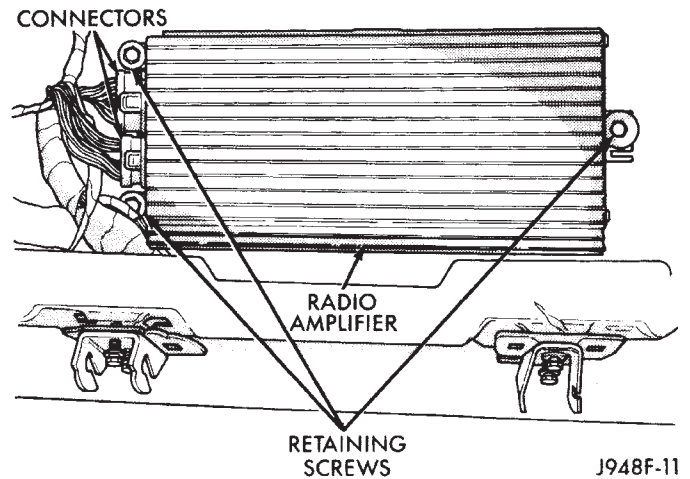

Fig. 8 Amplifier Remove/Install
(1) Disconnect and isolate the battery negative cable.
(2) Disengage the left rear seat cushion latch by pulling upward on the release strap. Tilt the seat cushion forward.
(3) Lift the carpeting in the underseat area as required to access the amplifier.
(4) Unplug the two wiring connectors from the amplifier (Fig. 8).